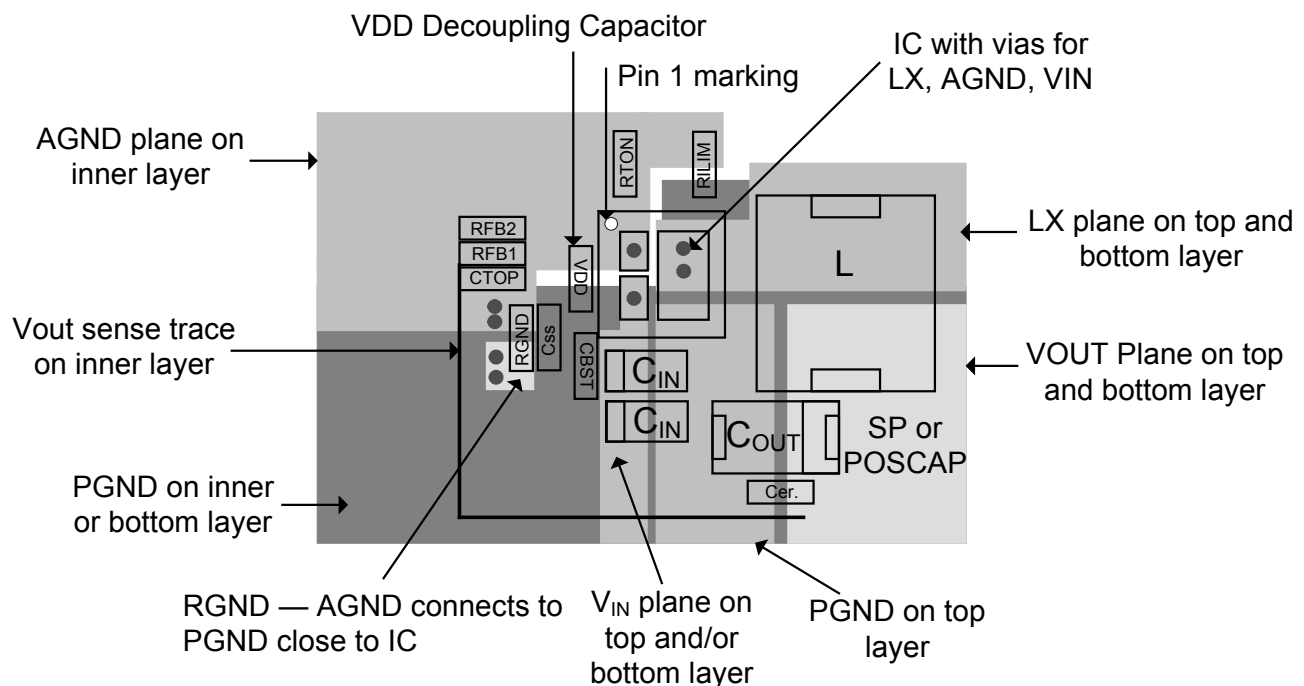

Figure 17 — PCB Layout
The optimum layout for the SC402B is shown in Figure 17. This layout shows an integrated FET buck regulator with a maximum current of 10A. The total PCB area is approximately 25 x 29 mm with single side components.
- Figure 17 shows the placement of input/output capacitors and inductor. This placement shows the smallest current loops between the input/output capacitors, the SC402B and the inductor to reduce the IR drop across the copper.